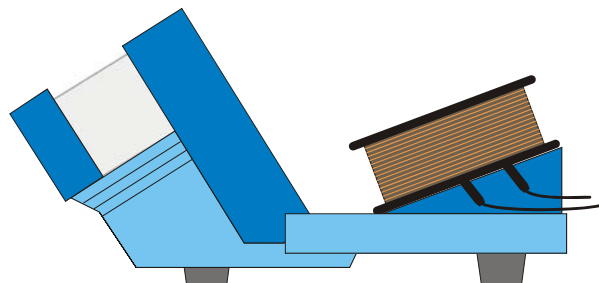

Fig. 3b Setting up the auxiliary coil
- Connect up the coil using experiment leads (refer to Fig. 3b).